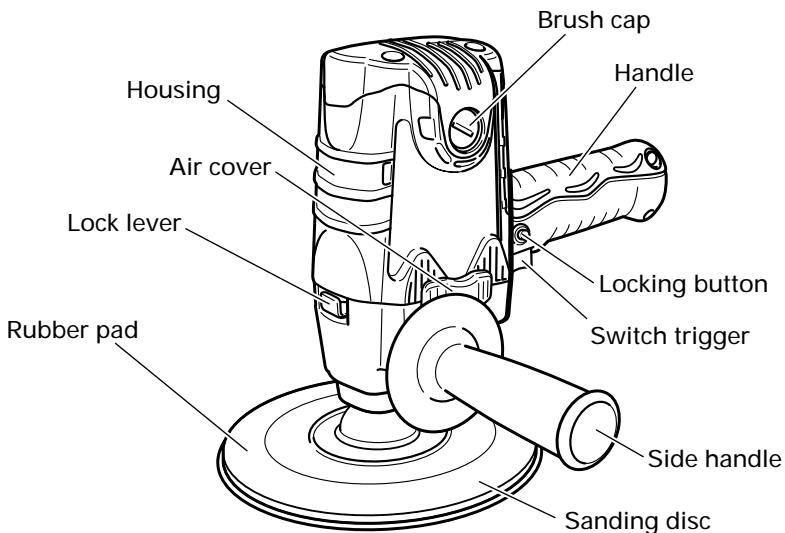

Fig. 1
1. Hold the disc sander firmly by its body hadle and side handle (Fig. 1).